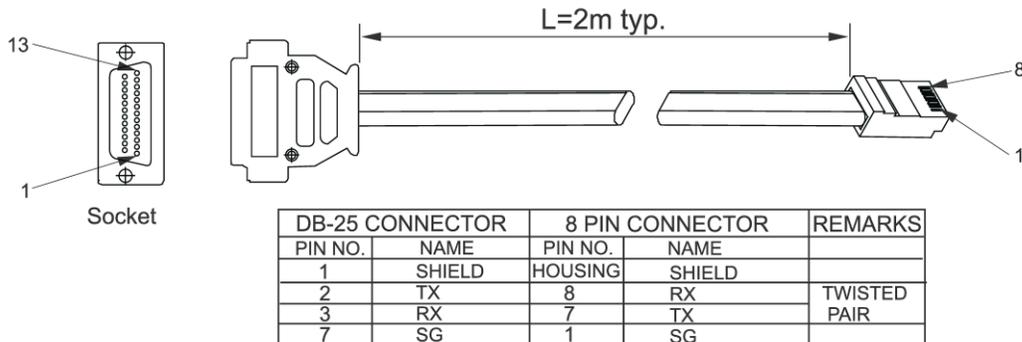

Figure 8-2. RS-232 Cable with DB25 Connector (P/N: GEN/232-25)
b) Connect rear panel J3-IN connector to the controller RS-232 or RS-485 port using a suitable shielded cable. Refer to Figure 8-2, 8-3 and 8-4 for available RS-232 and RS-485 cables.